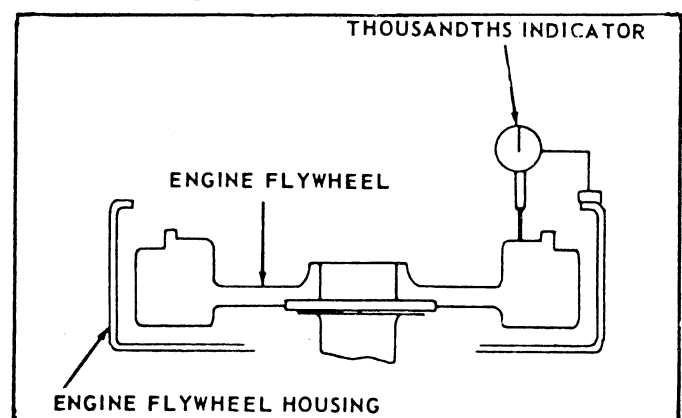

Figure 51 Checking the Driving ring surface of the engine Flywheel Housing.
F. Checking Driving Ring Surface of Engine Flywheel. Bolt a dial indicator graduated in thousandths inches to the engine flywheel housing so that the indicator is perpendicular to the engine flywheel, and the indicator stem is riding on the inner face of the flywheel (fig. 51). The variation of the face runout of the surface to which the driving ring is bolted should not exceed 0.0005-inch maximum total indicator reading per inch of diameter.